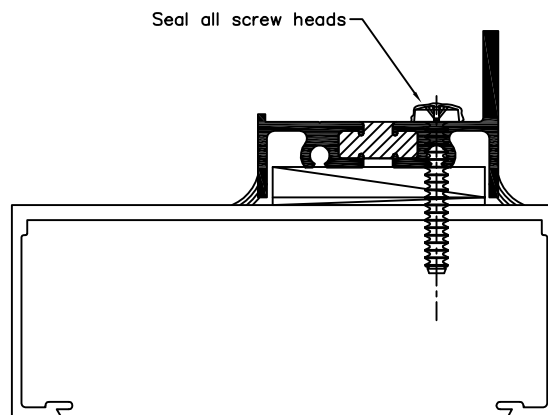

FIGURE 4
- A. SLIDE P3707 @ HEAD INTO GLAZING POCKET OF T14000 FRAMING ABOVE. (SEE FIGURE 4).